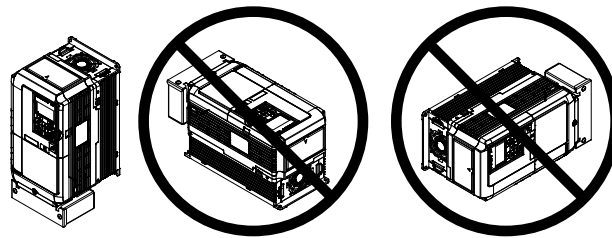

Figure i.7 Correct Installation Orientation
**NOTICE:** Install the drive upright as illustrated in Figure i.7. Failure to comply may damage the drive due to improper cooling.